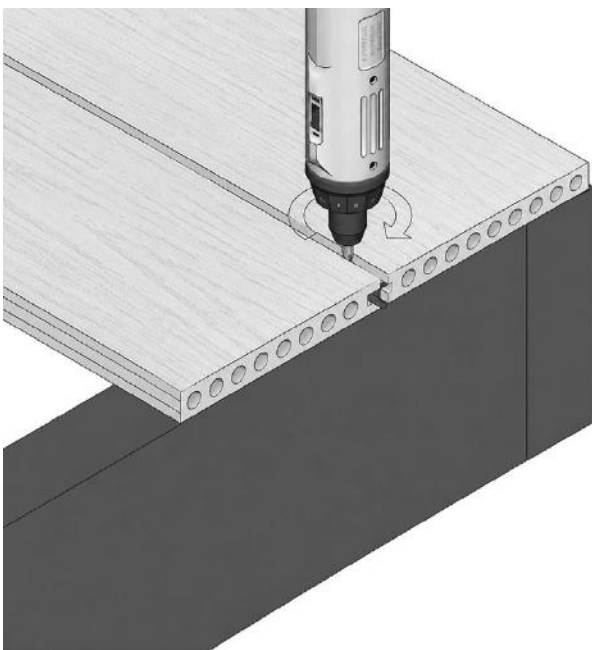

FIG. 6 - HIDDEN CLIPS TIGHTENED DOWN TO THE JOIST
- 01 Fully tighten the hidden clips, between the last boards installed, down to the joists (fig. 6). Apply sideward pressure on the decking to ensure the tabs are hard up against the inside of the decking groove.